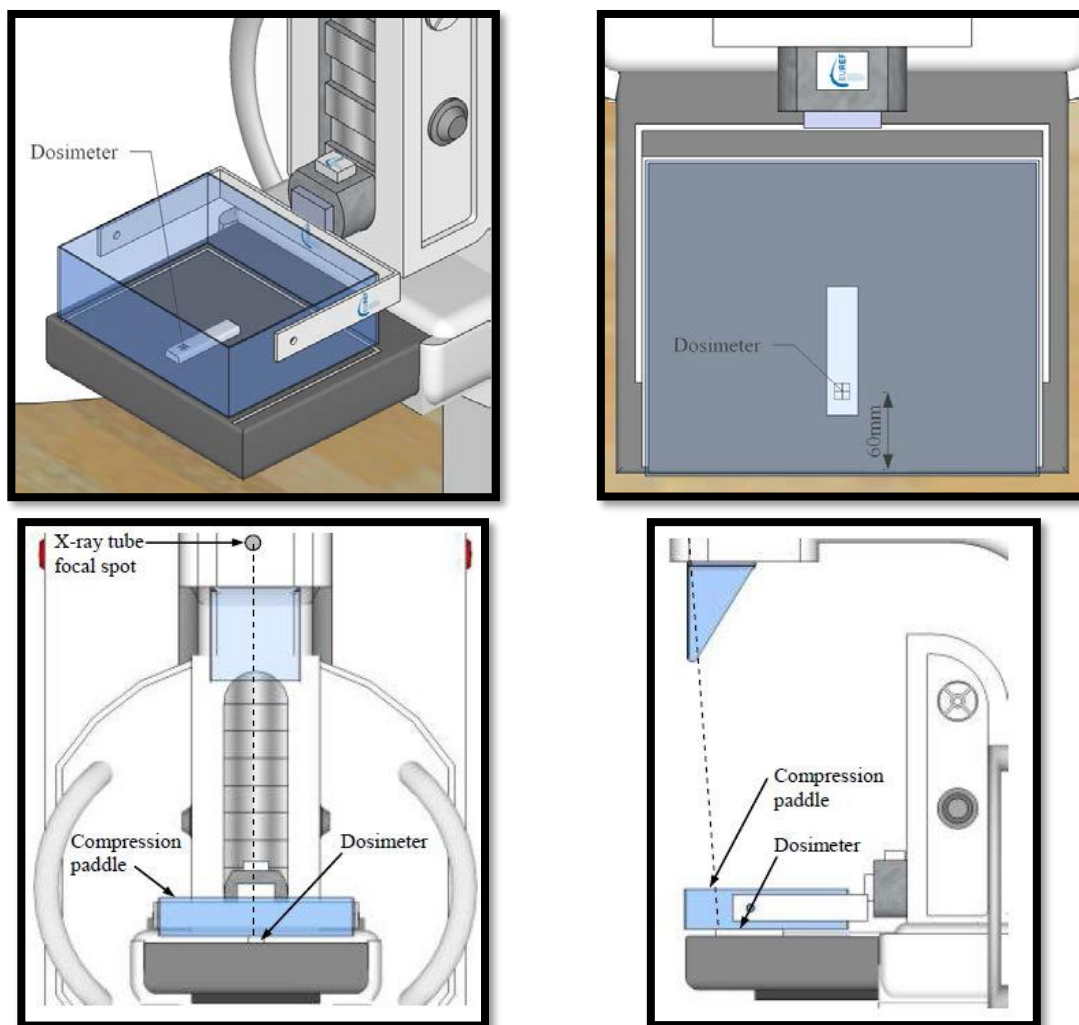

Figure 2c – Dosimetry scheme
- The dosimeter is positioned on the bucky, laterally centred, at 6 cm from the edge of the bucky (reference point at Figure 2c).